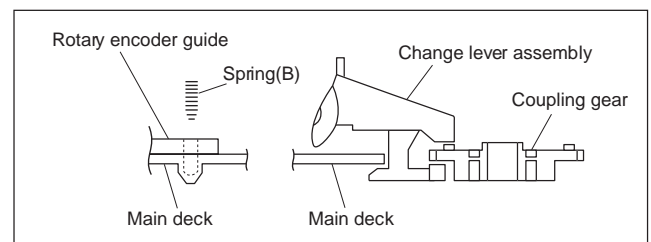

Fig.3-2-12b
- (2) Let the spring (B) drops into the rotary encoder guide hole and install the change lever assembly. (Take care not to mistake a direction of the spring.) The point is to slightly lift the coupling gear and catch it from the both sides with the assembly. (See Fig.3-2-12b.)